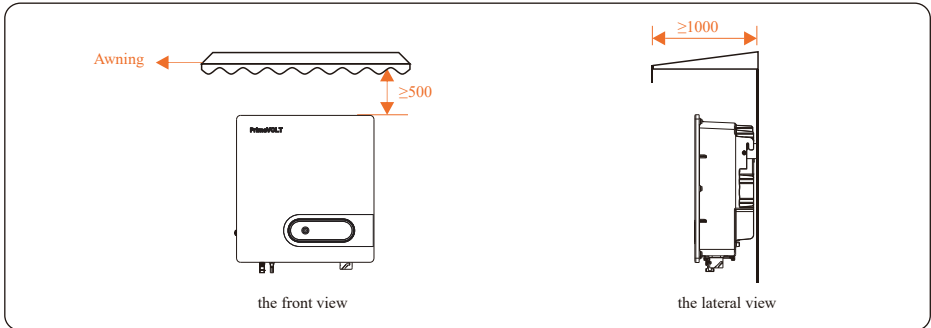

Figure 4.2 Installation environment with awning (unit: mm)
After checking the outer packing, move the PV inverter to the designated installation position horizontally. Hold the handles on both sides of the inverter, as shown in Figure 4.2.
- The inverter must be free from direct exposure to sunlight, rain, and snow to extend its service life. It is recommended to install the inverter in a sheltered place. If no shelter is available, install an awning over it, as shown in Figure 4.2.